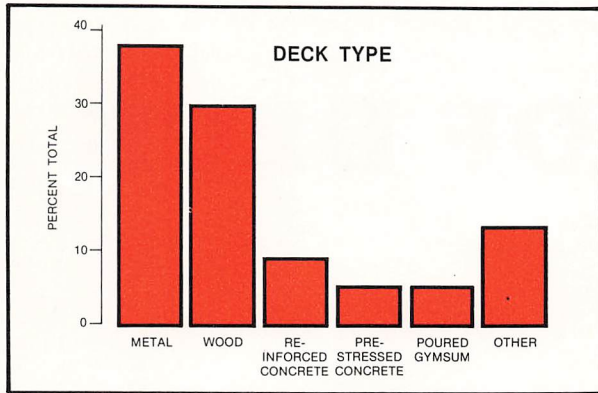

FIG. 1
- Figure 1 gives the distribution of various deck types. Without going into great detail, this figure shows that metal decks are the most popular, with wood a strong second. Between the two, they account for some 63% of the decks reported. The unexpectedly high percentage of wood decks might be thought to be the result of a geographical bias in favor of the West Coast area. A check of the number of reports against NRCA membership by state, indicates that this is not so, and the data is more or less geographically random.